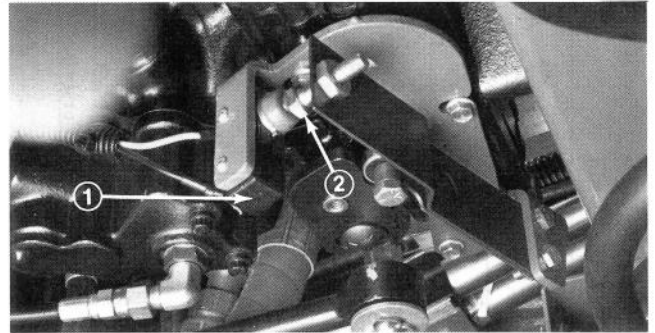

Figure 71
1. Make sure traction pedal is in neutral position. Loosen jam nut and rotate switch adjusting screw until there is a gap between head of screw and switch button (Fig. 71).